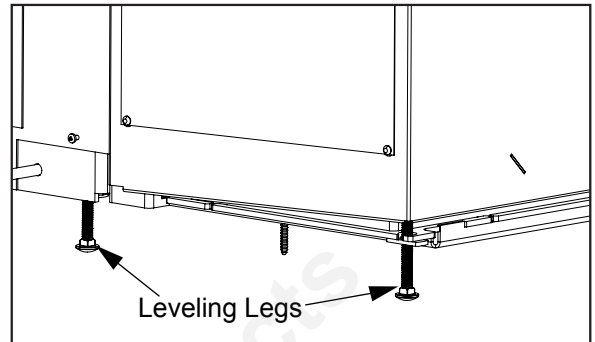

Figure 15: Leveling legs.
3. There are four (4) leveling legs (shown in Figure 15), two (2) on each side, one (2) at the back and one (2) at the front of the unit. Adjust the legs using a $\frac{3}{8}$ " wrench to ensure the unit is stable.